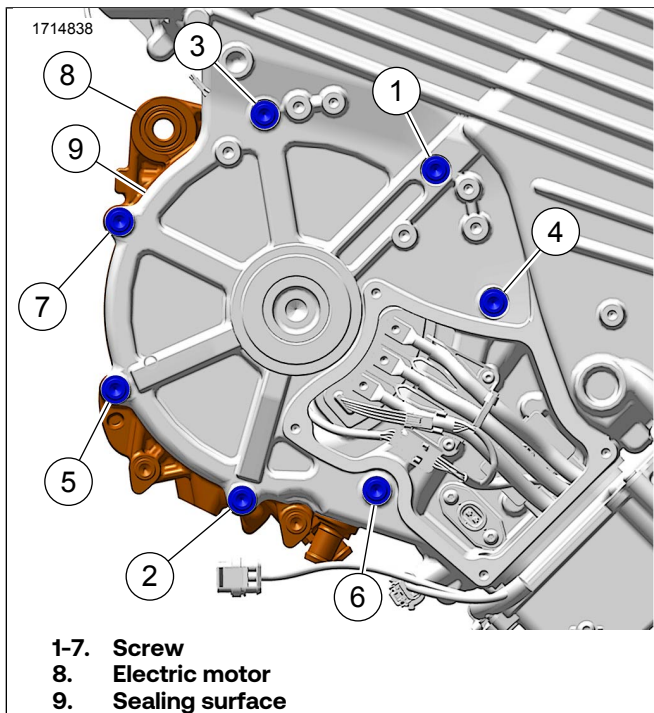
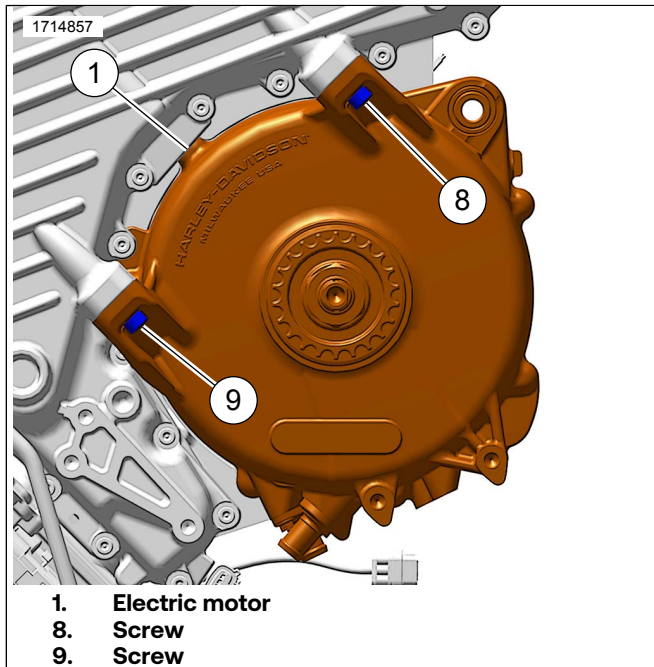

Figure 2. Right Motor Screws
Figure 3. Left Motor Screws
1. See Figure 2 and Figure 3. Ensure seal is properly seated in motor groove and align motor to RESS and start the seven fasteners on the right side of the vehicle.